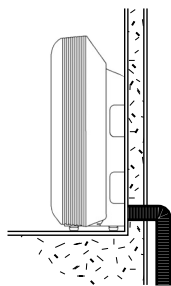

Figure 1
5. Length of the condensate drain hose should be kept as short as possible (Figure 1).